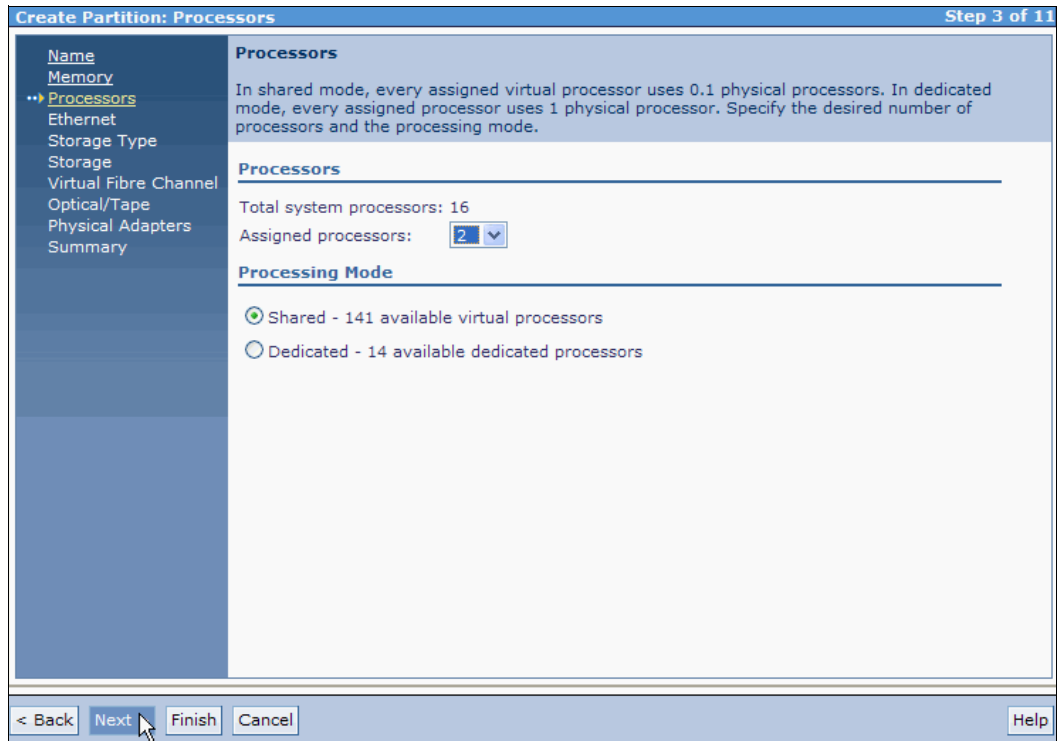

Figure 4-39 Create Partition: Processors (and Processing Mode)
4. Select the number of processors that are needed and choose a processing mode, as shown in Figure 4-39. If you choose the shared memory mode, you cannot use dedicated processors. In the shared processor mode, each virtual processor uses 0.1 processing units at the time of LPAR creation. Click **Next**.